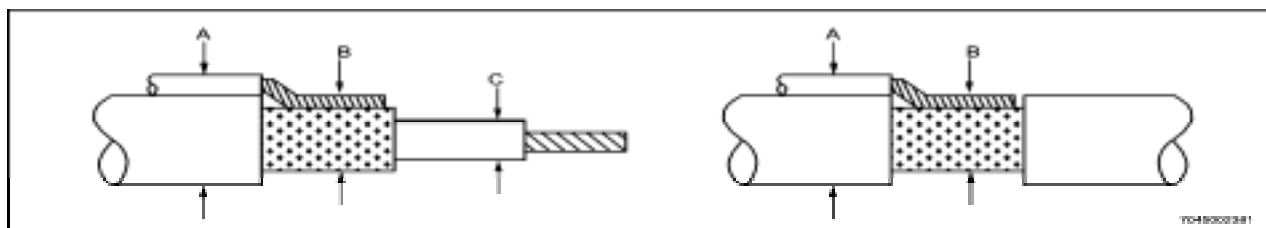

Figure 3-6 Combined Cable Diameter Measurements
- d. Measure the diameters "A, B and C" as shown in Figure 3-6.